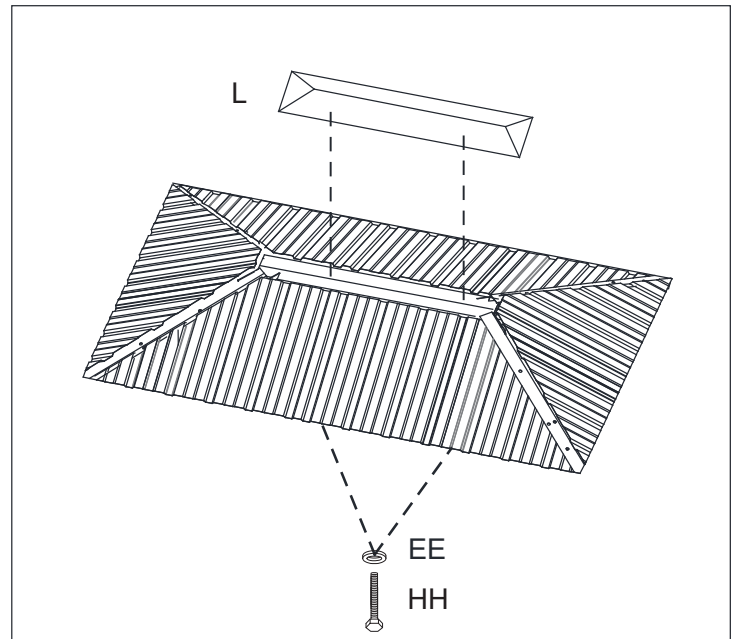
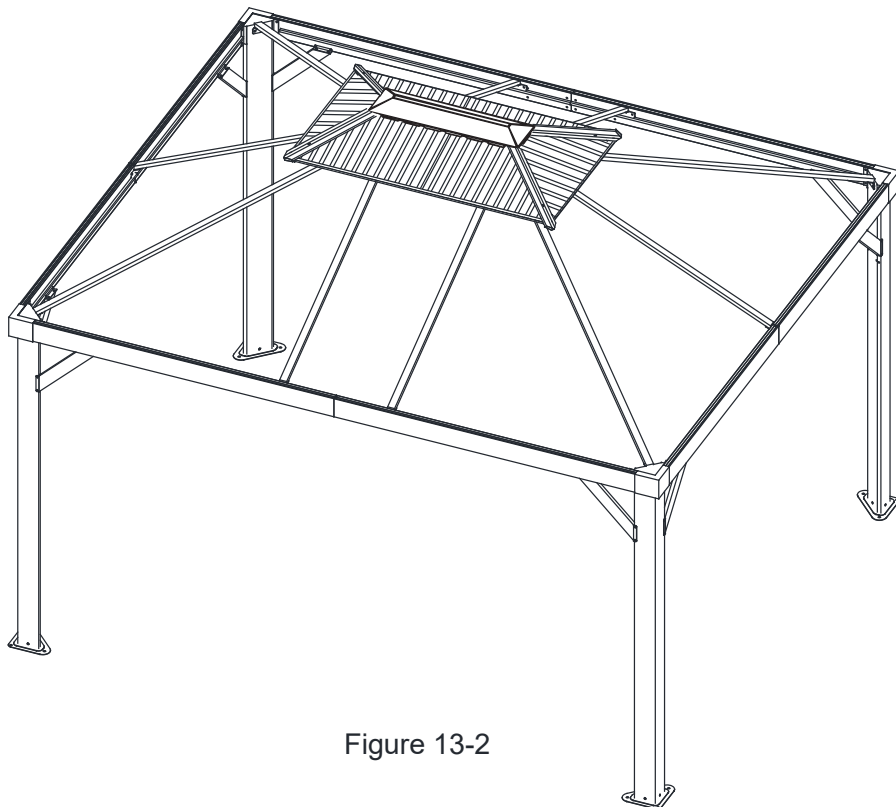

Figure 13-3
Figure 13-2
13.2: Repeat for all corners. Tighten All Bolts. See Figure 13-2.
13.3: Attach the Roof Vent Top Trim (L) to the Roof Vent Center Support (K2) using Bolts (HH) and washer (EE). Tighten Bolts. See Figure 13-2 and Figure 13-3.